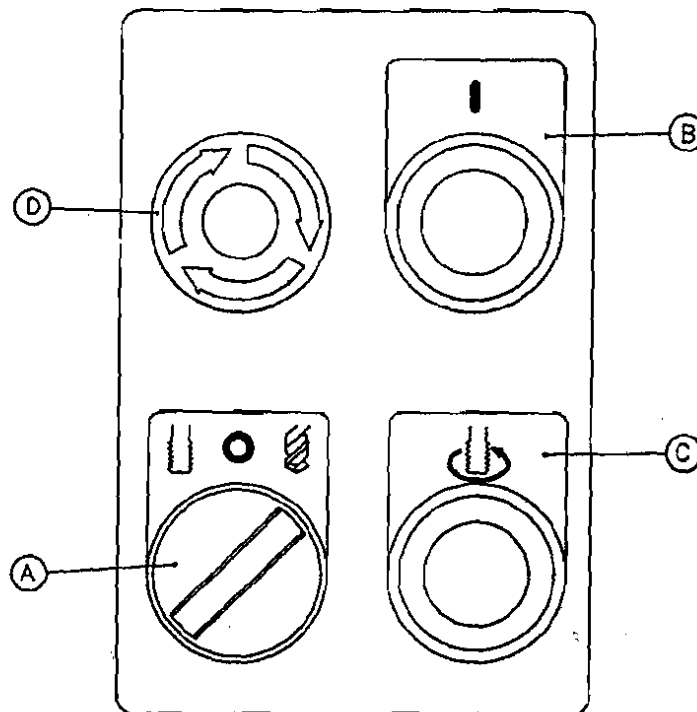

Fig. 3
- (1) Turn the select switch (A) (see Fig. 3) to " TAPPING " position when you want to do tapping work.
- (2) Handling down the quill and setting up the stroke of tapping depth by graduated rod.
- (3) Check the proper speed of spindle for your tapping condition.
- (4) Push down the start button (B) (see Fig. 3) and begin to tap.
- (5) If anything fails, put down the emergency stop (D) (see Fig. 3) and the machine will stop immediately.
- (6) Release the emergency stop (D) and the push down the reversing button (C), the tap will go reversely back out.
- (7) After finishing your tapping work, Remember to turn the select switch (A) to " NEUTRAL " position.